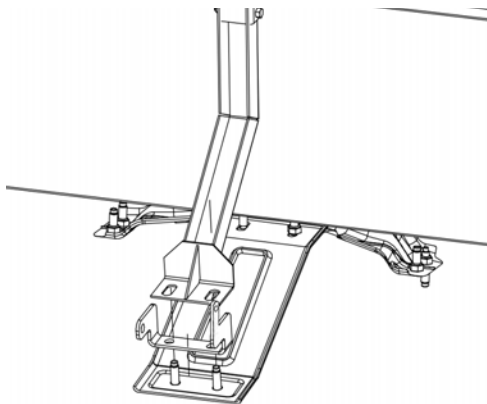
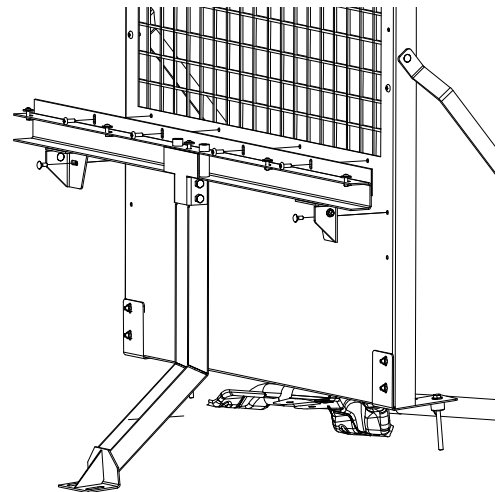

Fig. 3
Fig. 4
- B. Use 3X06 screws to hold the outboard seat belt cross bar to the barrier. Next, the (3OSB4715-05) seat belt bracket will get sandwiched between the support bar and x-member threaded studs. Remove the OEM nuts on the threaded studs attached to the x-member and insert the support bar into the vehicle and bolt to the barrier as shown in Fig. 3 and Fig. 4. Place OEM nuts back onto the threaded studs and secure tightly.